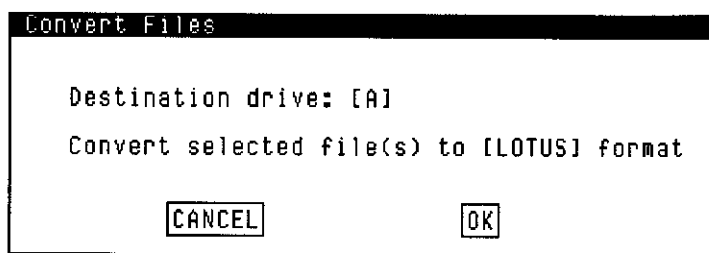

Figure 8-9. Convert Files Window
4. Click on **<Convert>**. The Convert Files window, Figure 8-9, is displayed. Input the drive where the file(s) are to be stored and select Lotus or ASCII format. Then click on [OK] to convert the selected file(s) and remove the Convert Files window from the display.